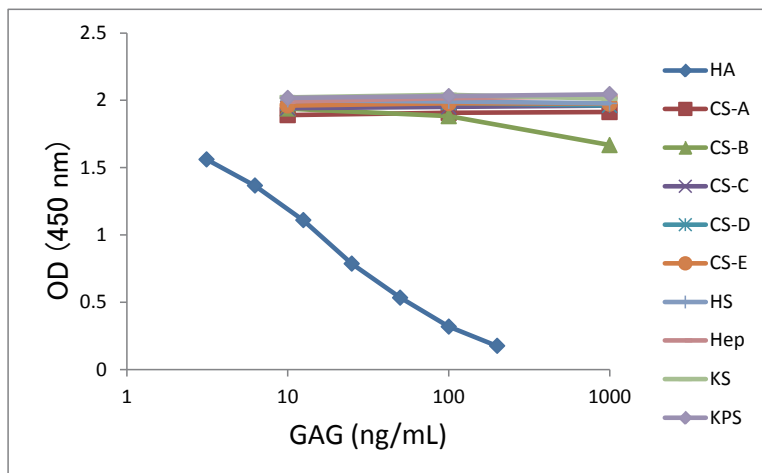

Fig. 5. The cross-reactivity with various kinds of GAGs
The cross-reactivity with various kinds of glycosaminoglycans (GAGs) was evaluated using Hyaluronan Quantification Kit (Fig.5). This kit did not show the cross-reactivity with chondroitin sulfate-A (CS-A), CS-C, CS-D, CS-E, heparan sulfate (HS), heparin (Hep), keratan sulfate (KS) and keratan polysulfate (KPS) at the concentrations of up to 1000 ng/mL. A weak reactivity was shown in high concentration of CS-B (dermatan sulfate).